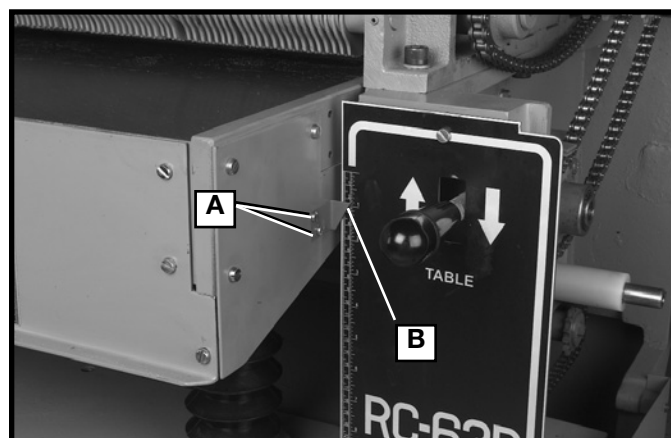

Fig. 39
2. Measure the thickness of the finished piece. If necessary, loosen two screws (A) Fig. 39 adjust pointer (B) and retighten screws (A).